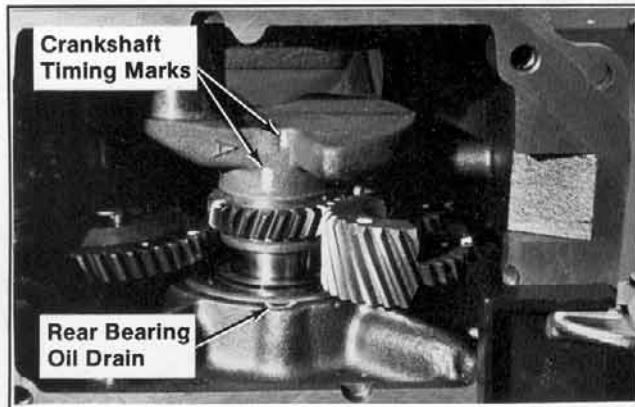

Figure 4. Aligning Crankshaft And Rear Bearing Oil Drain.
3. Lubricate the rear bearing surface of crankshaft. Insert the PTO end of crankshaft through the rear bearing. "Straddle" the primary and secondary timing marks on crankshaft over the rear bearing oil drain. Refer to Figure 4.